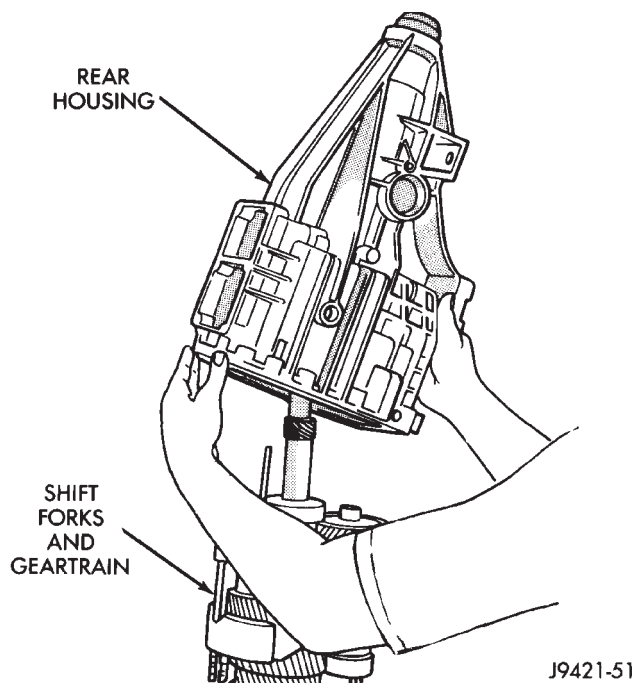

Fig. 97 Rear Housing Installation—2WD
(7) Install rear housing onto geartrain (Fig. 97). Be sure bearing retainer pilot stud is in correct bolt hole in housing. Also be sure countershaft and output shaft bearings are aligned in housing and on countershaft. It may be necessary to lift upward on countershaft slightly to ensure that the countershaft rear bearing engages to the countershaft before the rear output shaft bearing engages the housing.